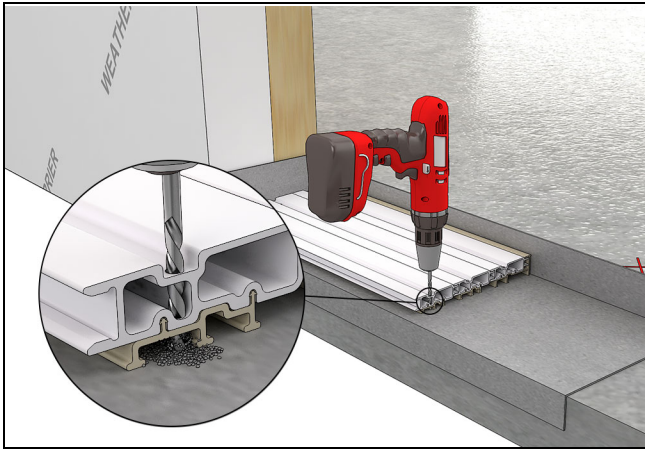

Figure 6
2. Set the sill slope in the slot at the desired location. Using the pre-drilled holes in the sill slope as a guide, drill through both walls of the sill slope and into the optional pre-panning and substrate. See Figure 6 and Figure 6.